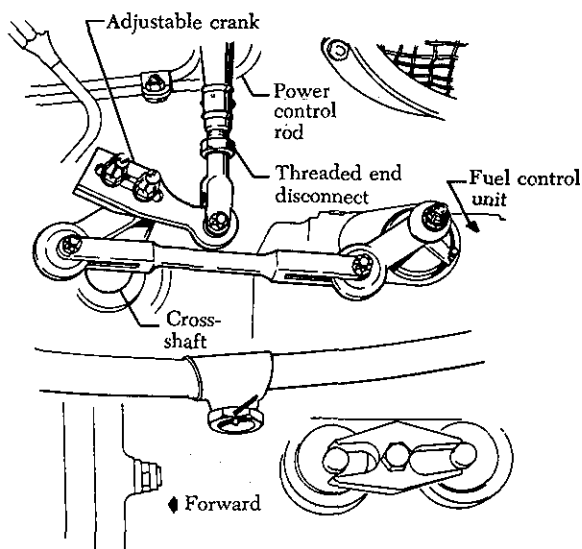

FIGURE 8-18. Power lever disconnect.
- (8) Disconnect the power control rod (figure 8-18) from the power control lever cross-shaft linkage at the threaded end disconnect. Secure the power control rod to the nacelle structure.